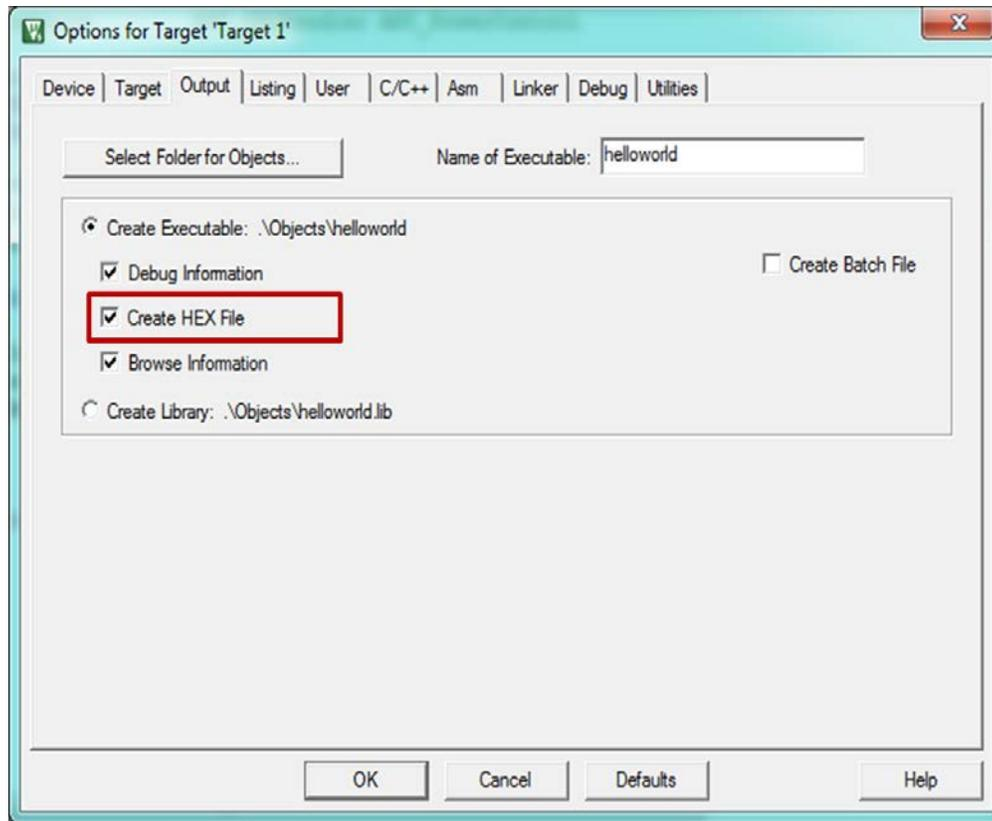

Figure 2: Output Options
3. In the **Options** dialog box, on the **Output** tab, check **Create HEX file** (Figure 2), and click **OK**.